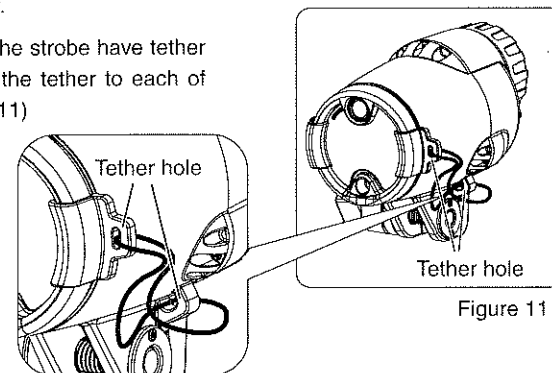

Figure 11
- ※ Both the diffuser and the strobe have tether holes in them. Attach the tether to each of these holes. (Figure 11)